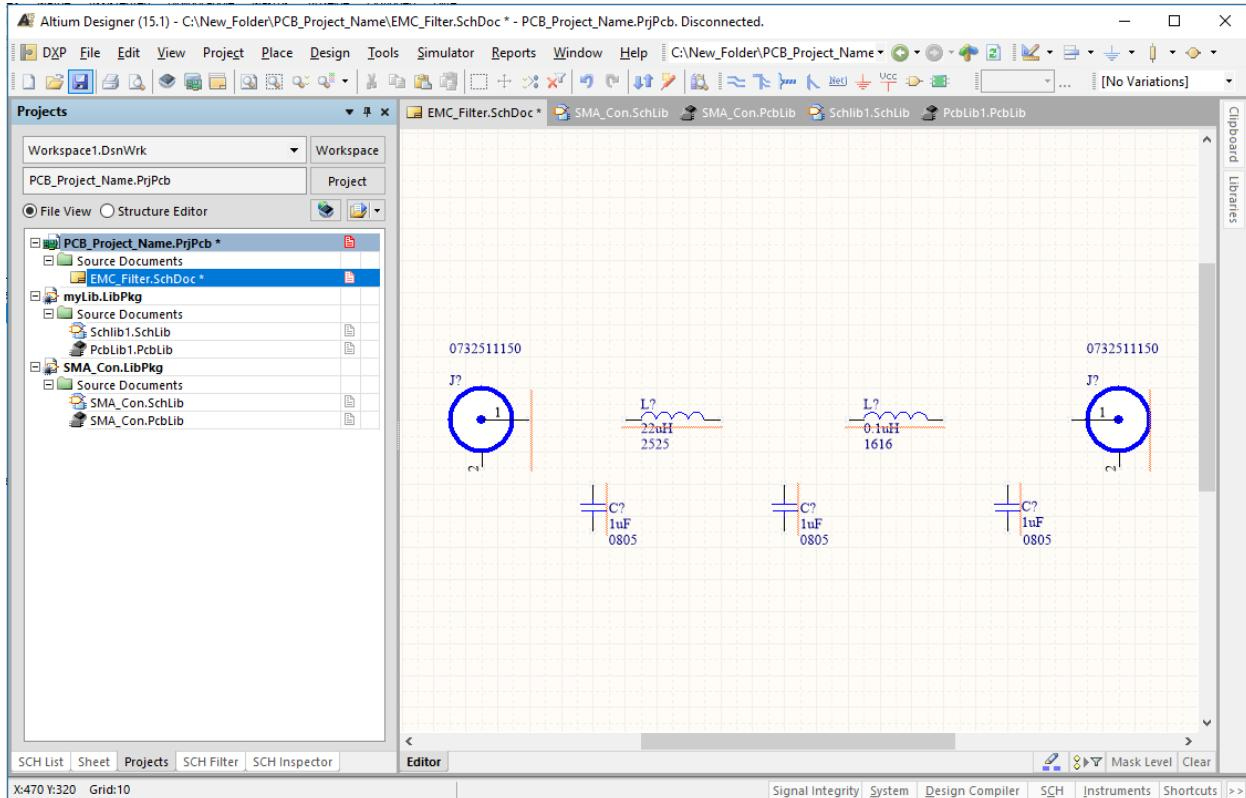

Figure 53: Altium Schematic SMA parts added.
32. Next chose connectors, to save you time and work, the SMA Connector parts are provided as an Integrated Library and can be downloaded from the following GitHub repository https://github.com/haringd/SMA_Con_Altium_IntegratedLibrary. Figure 53 shows the schematic with the added SMA connectors left and right side.